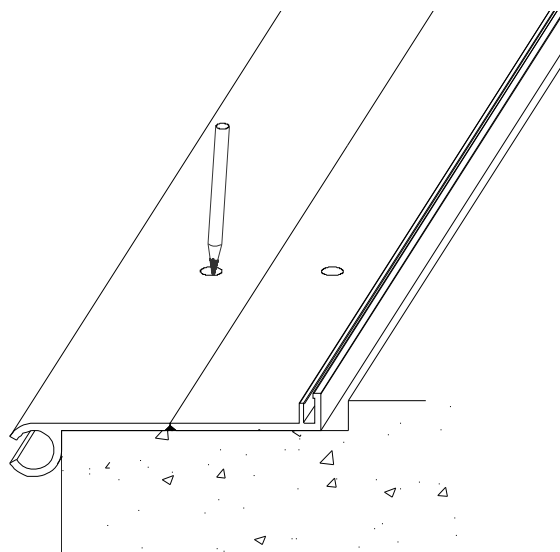

Figure 7
**STEP 9.** Select a base member, and place it into the blockout in the installed position in the blockout. Ensure that the base member is level, flush with the finished floor, and plumb with the edge of the joint. Using the base member as a template, mark the locations for the anchors on the concrete (see Figure 7).